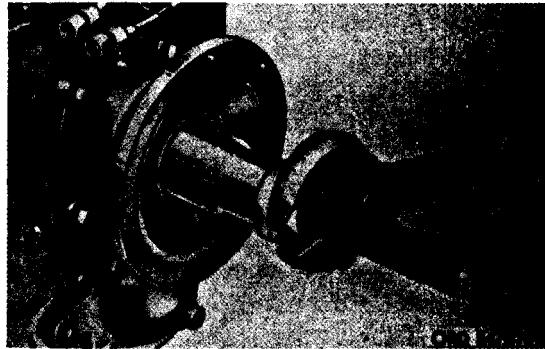

Figure 263. Installing companion flange using flange replacer -5120-795-0147
- (f) Install companion flange (U, fig. 260) on salines at rear end of main shaft (Q, fig. 260). Use flange replacer 5120-795-0147 (fig. 263) to install flange. Assemble slotted nut (T, fig. 260) and tighten securely, Anne cotter pin hole and install cotter pin (S, fig. 260).